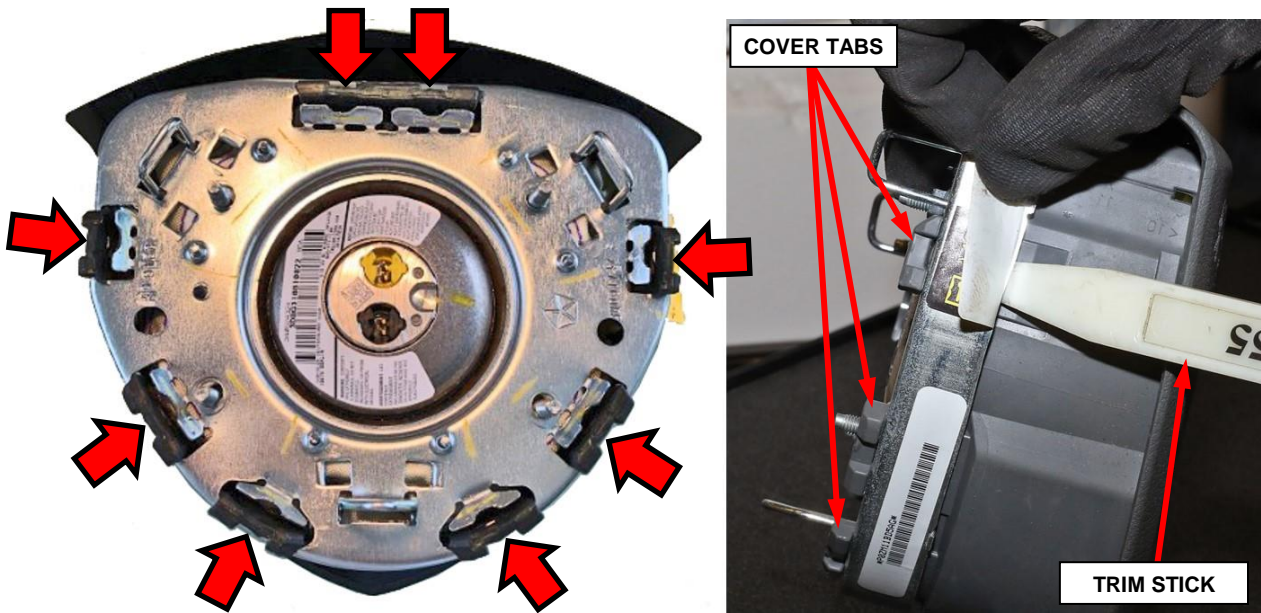

Figure 9 – Release DAB Cover Tabs from Backing Plate
4. Using a trim stick and beginning at the “Do Not Tamper” sticker, work in a clockwise direction around the cover pushing the cover tabs inward and separate the backing plate from the cover (Figure 9).